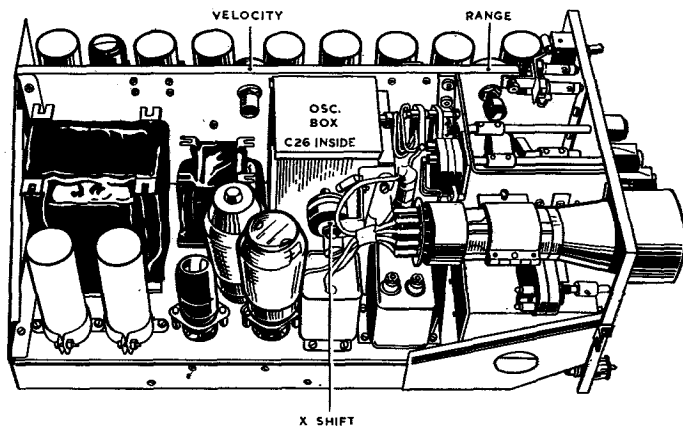

Fig. 23. Mixer unit Type I3 : interior
attenuator. Set condenser C25 to its mid-position, and tune the oscillator using C26 (*fig. 23*) so as to obtain an upward-going pulse on the monitor CRT.
- (2) Connect the RF output socket of the mixer unit to the input socket of the direct receiver using the test lead provided.
- (3) Turn the velocity control (inside mixer unit Type 13) to minimum and the range control to maximum (*fig. 23*).
- (4) Adjust the DELAY control on the front panel so that the leading edge of the test pulse is right at the end of the timebase on the display unit Type 5 display (indicating unit Type 123).
- (5) Turn the range control (inside mixer unit Type 13) until the monitor timebase finishes at the trailing edge of the test pulse.
- (6) Adjust the velocity and X-shift controls to give a monitor timebase trace about 4.5 cm. long and central on the screen.
- (7) Replace the dust cover and readjust the delay control on the front panel so that the test pulse appears at about the centre of the monitor timebase trace.
- (1) Switch on mixer unit Type 13, the two receivers and the transmitter.
- (2) Set the MTNC-NORMAL switch to MTNC (the warning neon should glow); transmitter Type T.3117 and the timebase circuits of the mixer unit will be locked from an internal source.
- (3) Set the selector switch at A and connect RF TEST on transmitter Type T.3117 to the wavemeter input with the test lead provided.
- (4) Set the wavemeter to the station frequency (using the calibration chart) and tune the transmitter (*para. 65 to 69*) to the wavemeter to obtain maximum transmitter pulse amplitude on the monitor display. The transmitter pulse appears as a thin vertical line near the beginning of the timebase.
- (5) Switch on the pulsed oscillator (the second warning neon should glow) and tune it to the wavemeter using the monitor display. Condenser C26 (*fig. 23*) is the main frequency control. The front panel control is for fine adjustments over a range of 7 Mc/s.
- (6) Connect the RF output socket of the pulsed oscillator to the input of the narrowing receiver with the test lead provided. Set the selector switch to B.
- (7) Adjust the oscillator attenuator to give a pulse of about half saturation on the monitor display. Tune the narrowing receiver (*para. 74*) to the test pulse; if necessary, reduce the RF output by means of the attenuator to prevent the test pulse from saturating the receiver.
- (8) Adjust the NARROWING GAIN so that 1 mm. of noise is seen on the monitor display. It is important that this noise level should not be exceeded. Adjust the attenuator to give a test pulse 1 cm. high. Do not alter this attenuator setting subsequently.
- (9) Connect the RF output of the pulsed oscillator to the input of the direct receiver and put the selector switch at C. Without altering the attenuator, tune the direct receiver and then adjust DIRECT GAIN to give a test pulse 1 cm. high.
- (10) Put the selector switch at D. Switch off the pulsed oscillator and put the maintenance switch at NORMAL. Both neons will now be extinguished and a trace will only be obtained if the IFF A-BAND key on display unit Type 5 is ON.
- (11) Remove the test leads and plug in the aerials to the receivers.